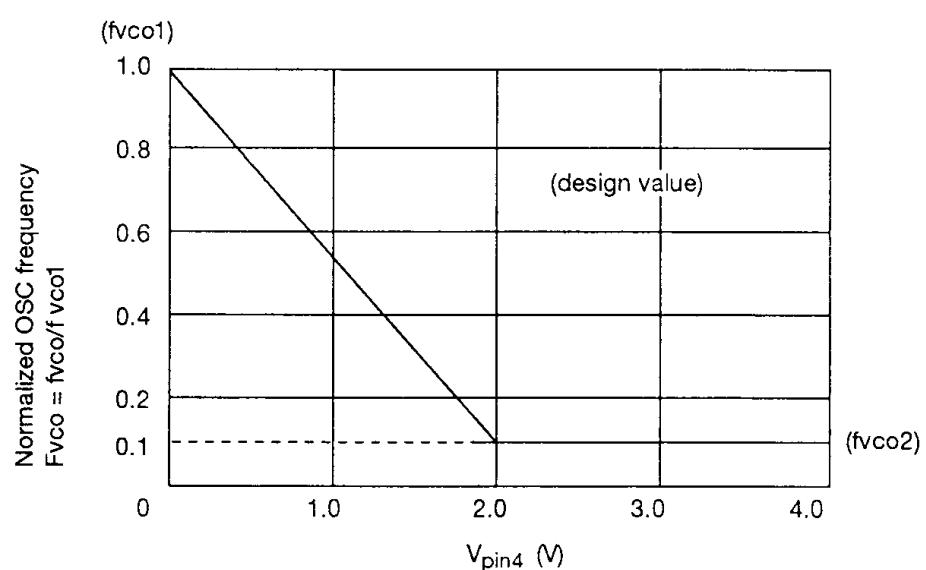

Figure 3 VCO Characteristics
- The reference voltage V_{ref2} is measured from pin 15 to pin 16.
- See figure 3 in references.